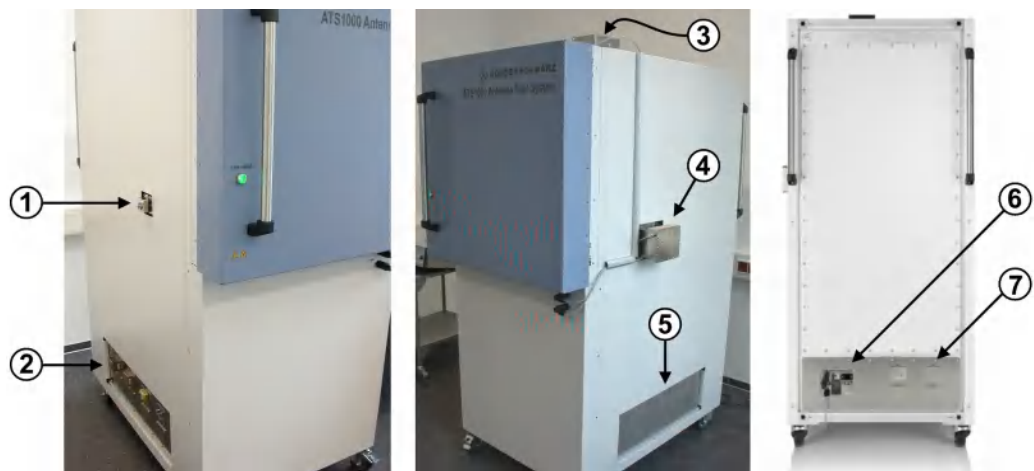

Figure 4-3: Left, right and rear view of the R&S ATS1000
The [Laser] button (4) switches the DUT alignment lasers in the chamber on or off; see Chapter 4.2, "DUT Alignment Lasers", on page 24. The button is located next to the connectors of the power cables (5) for the two laser boxes; see Figure 4-3.
On the right-hand side of the chamber, there is an external box (labeled 4 in Figure 4-3). This box with label [A311] contains the horizontal alignment laser. Note that the laser's opening in the chamber wall cannot be used for mounting a feedthrough.
Only Rohde & Schwarz service personnel are allowed to open the service panel (labeled 5 in Figure 4-3). If the R&S ATS-TEMP climate option for DUT testing at extreme temperatures is installed in the chamber, its hot/cold air supply and exhaust hoses connect to the right service panel (5).
Only an **expert user** is allowed to remove, mount or open the laser boxes (labeled 3 and 4 Figure 4-3), and to align the lasers relative to the positioner axes.